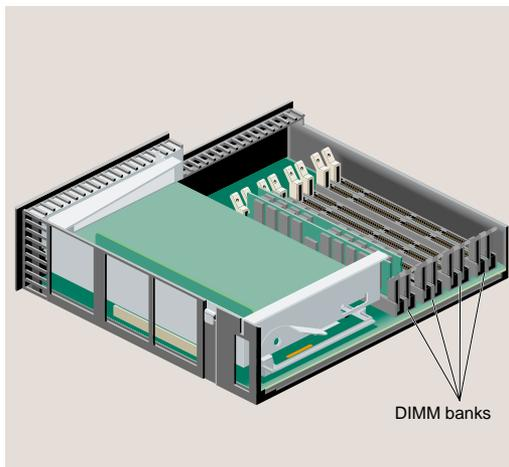
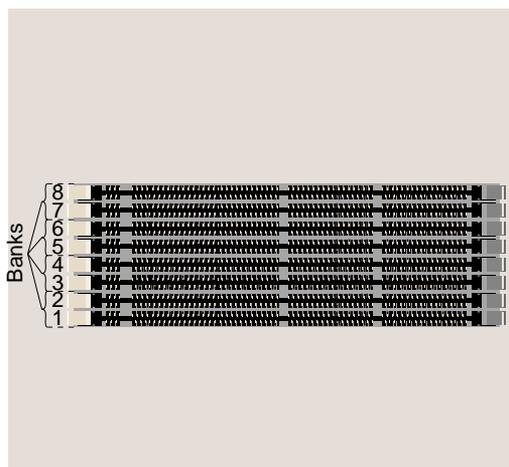

Figure 2-7 Locating the DIMM Banks
Figure 2-8 Top Down View of the DIMM Banks
3. Familiarize yourself with the memory (DIMM) banks (Figure 2-7) and (Figure 2-8). There are four banks comprised of eight sockets, numbered 1 through 8. Two sockets form a bank.